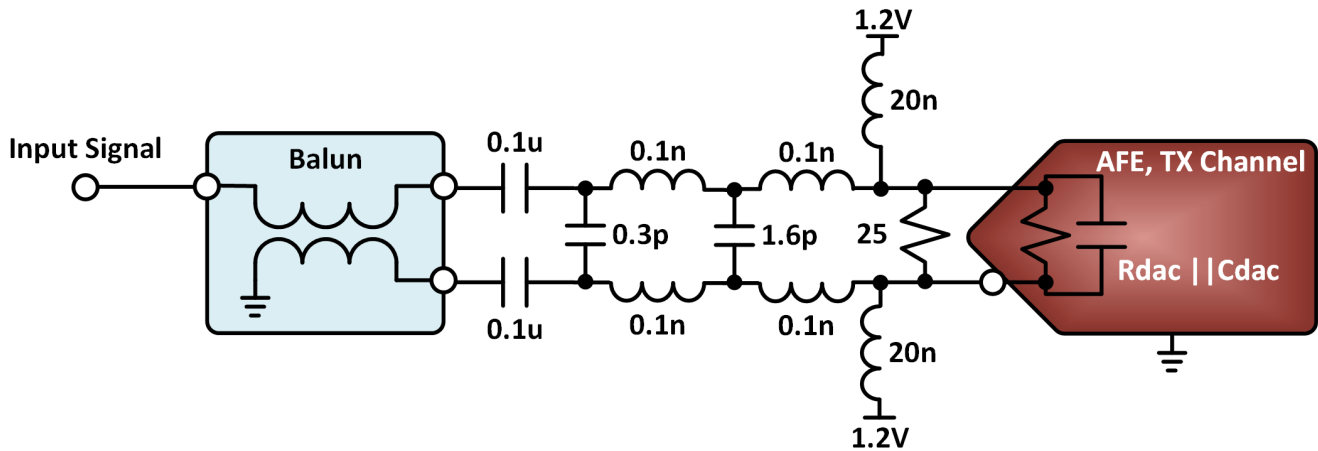
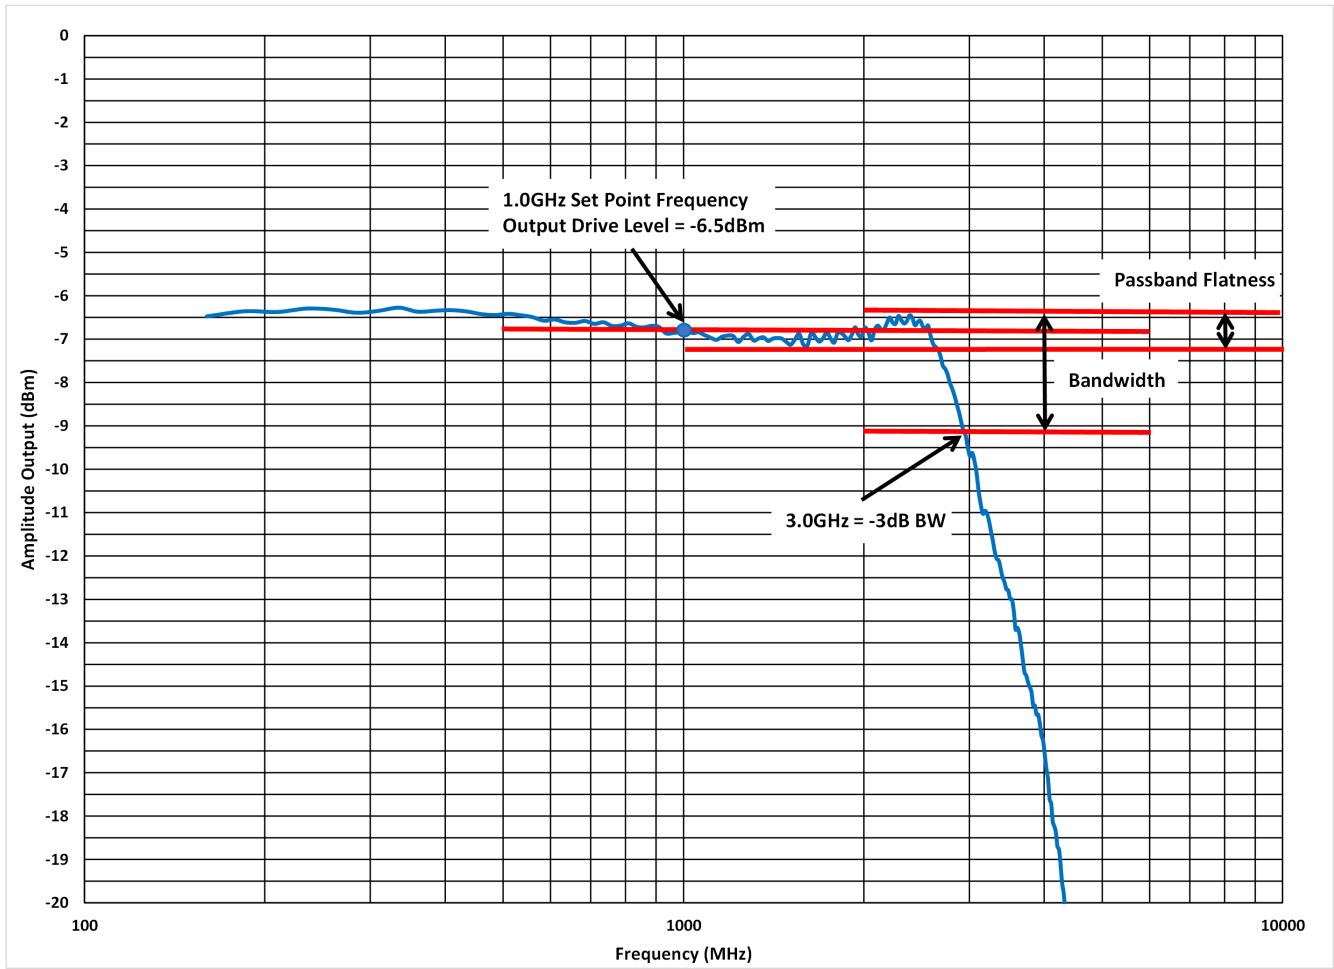

Figure 3-1. Example Output Network Connected to the DAC
Figure 3-2. AFE DAC Output Pass-band Flatness Response: DUC Enabled
The steps discussed work for a DAC that uses real sampling, meaning one that does not use a digital upconverter (DUC) to upconvert the chosen signal from baseband to the chosen frequency. For a device that uses complex mixers in the transmitter chain, such as an AFE from Texas Instruments (TI), there is a step that you must add to the process of taking a passband flatness sweep. This step is to adjust your numerically controlled oscillator (NCO) frequency such that the output frequency of the DAC is at the appropriate frequency to sweep the output across the frequency band of interest. Handle the NCO for the DAC DUC similarly to the description in the previous installment of this series for capturing a bandwidth of the ADC when using an NCO. As an example, see Figure 3-1 and Figure 3-2, which illustrate an example output network for the transmitter channel and the data taken from a TX channel of the AFE with a matching network of 3GHz of bandwidth.